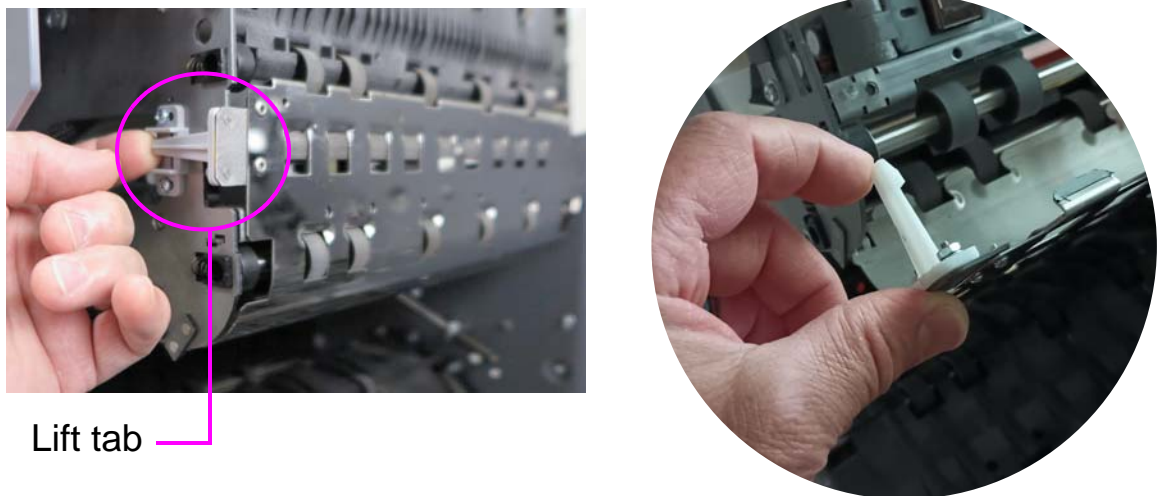

Figure 5-2: Back Printer Access
2. Gently lift the tab (see Figure 5-2) and swing open the paper guide to expose the printer assembly.